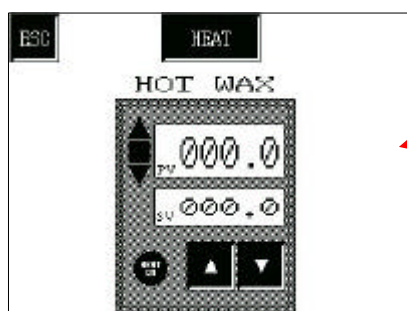
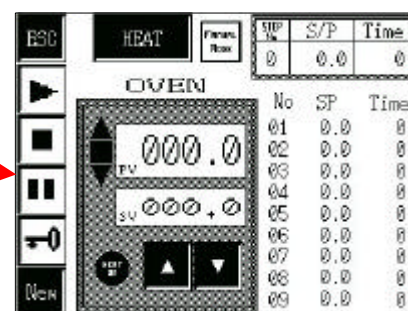
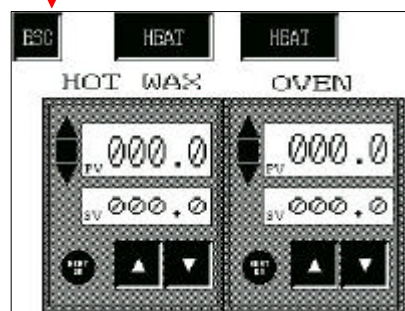

Fig. 41
Fig.43
Fig.44
The screen displayed having pressed the TEMP button on the Menu screen will depend on the options included in your machine. If only the Heated Cup option is fitted, then the screen shown in Fig. 41 will be displayed, if the Heated Oven option is fitted then the screen in Fig. 43 will be displayed, if however, both options are fitted then the screen shown in Fig. 44 will be displayed.
The screen shown in Fig.41 displays the control for the Hot Wax (Heated Cup) temperature. The current temperature of the cup is displayed in the upper window (PV) in centigrade and the lower window displays the set value (SV) also in centigrade.